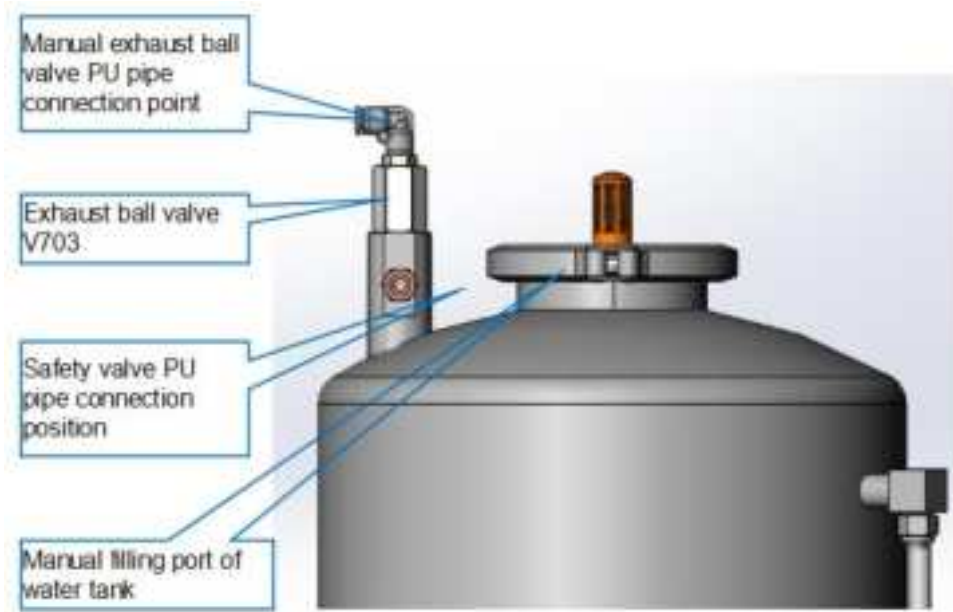

Figure 8-11 Water tank valve
- b. Check if all plugs on the automatic exhaust valves on the internal pipelines of the container are open (refer to Figure 8-11 Location of the exhaust valve in container system).